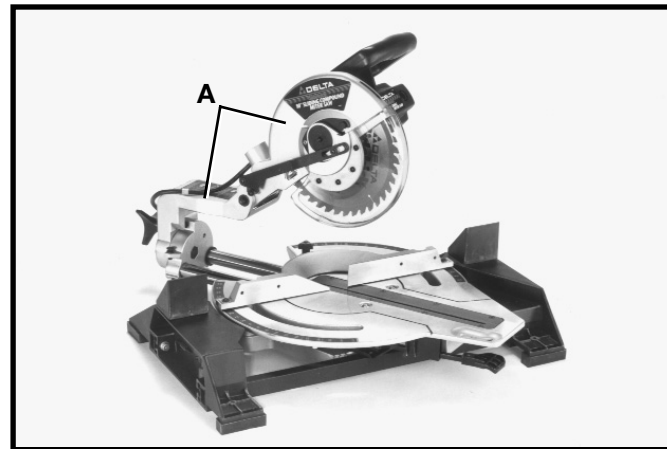

Fig. 19
2. Fig. 19, illustrates the cuttinghead (A) in the raised position.